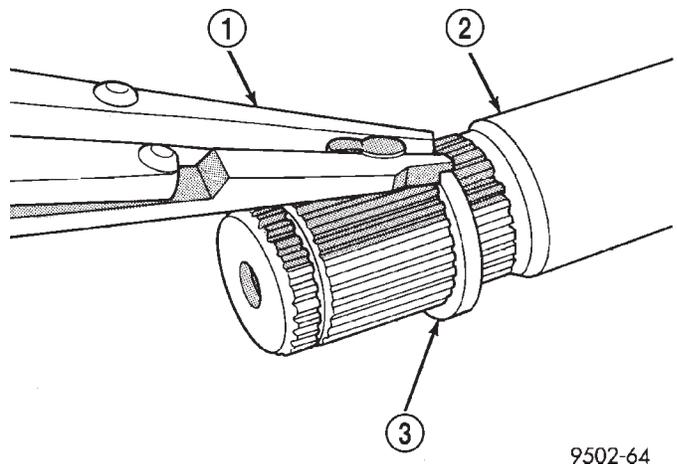

Fig. 38 Circlip Removal from Interconnecting Shaft
(5) Remove large circlip (Fig. 38) from the interconnecting shaft before attempting to remove outer C/V joint sealing boot.
(6) Slide failed sealing boot off interconnecting shaft.
(7) Thoroughly clean and inspect outer C/V joint assembly and interconnecting joint for any signs of excessive wear. **If any parts show signs of excessive wear, the driveshaft assembly will require replacement. Component parts of these driveshaft assemblies are not serviceable.**